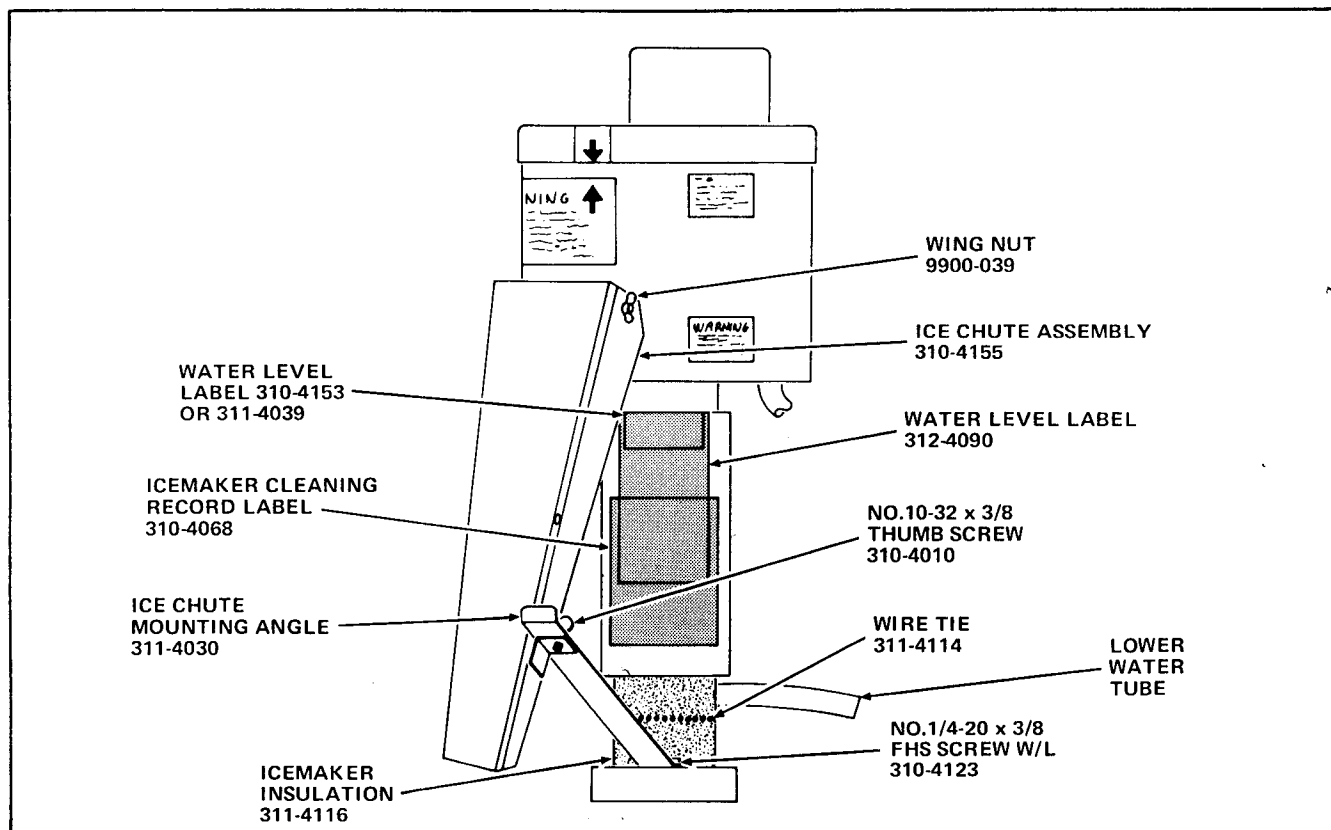

FIGURE IV-1
- A. Attach the appropriate Water Level Label to the replacement Icemaker Assembly Evaporator. See Figure IV-1.
- B. Attach the Icemaker Cleaning Record Label (part number 310-4068) to the replacement Icemaker Assembly Evaporator. See Figure IV-1.
- C. Install the Icemaker Insulation (part number 311-4116) around the Lower Bearing Housing of the Icemaker Assembly. Attach the Insulation with one of the Wire Ties (part number 311-4114). See Figure IV-1.
- D. If the Icemaker Assembly is to be installed in a Merchandiser that is equipped with a National Vendors, Cool-San Manually Actuated Automatic Icemaker Cleaning System, cut the lower plastic tube (Lower Water Tube) on the Icemaker Assembly to a length of 4 3/4". Use a sharp knife and make a clean square cut. See Figure IV-1.
- E. Install the replacement Ice Chute Mounting Angle, Part Number 311-4030, included in the Kit, on the repaired Icemaker. See Figure IV-1. Attach the Angle with the 1/4-20 x 3/8 FHS Screw/Lockwasher, Part Number 310-4123, included in the Kit. Install the replacement Ice Chute Assembly, Part Number 310-4155, included in the Kit, on the Icemaker. Attach the Chute Assembly to the Icemaker Hopper with the Wing Nut, Part Number 9900-039, included in the Kit, and to the Mounting Angle with the Thumb Screw, Part Number 310-4010, included in the Kit. Place the Ice Chute Cover, Part Number 310-4157, included in the Kit, on the Ice Chute Assembly by fitting the bosses on the Ice Chute Assembly in the holes in the Ice Chute Cover. See Figure IV-1.